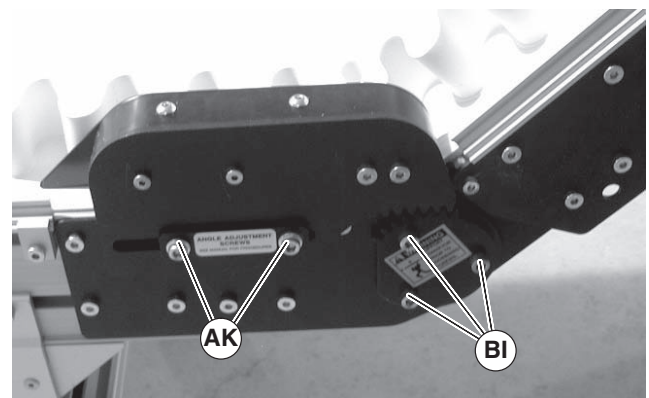

Figure 51
3. Loosen screws (Figure 51, item AK and BI) on both sides of knuckle.